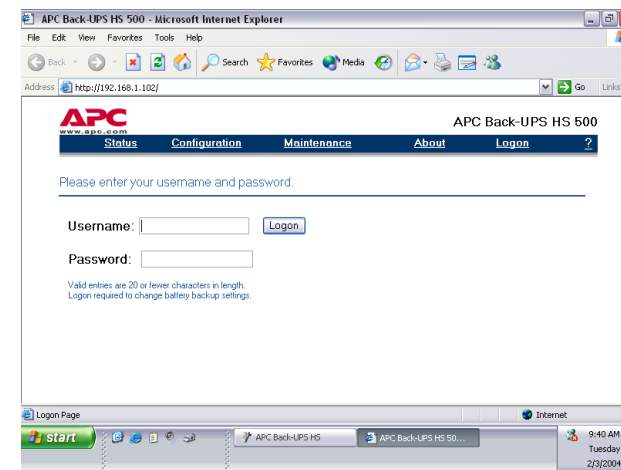

Figure 14. Log On Screen
When this page is displayed, enter a default **Username** of **apc**, and a default **Password** of **apc**. To change the **Username** or **Password**, you must log on and then click **Maintenance** (Figure 14).
15. Using the **Configuration Page Screen** (Figure 14), you can adjust the **Sensitivity** of the Back-UPS. By adjusting the Sensitivity, the Back-UPS will allow the unit to switch to battery power depending on the quality of the AC utility power being supplied to the unit. Use of the Sensitivity settings are for the following conditions: